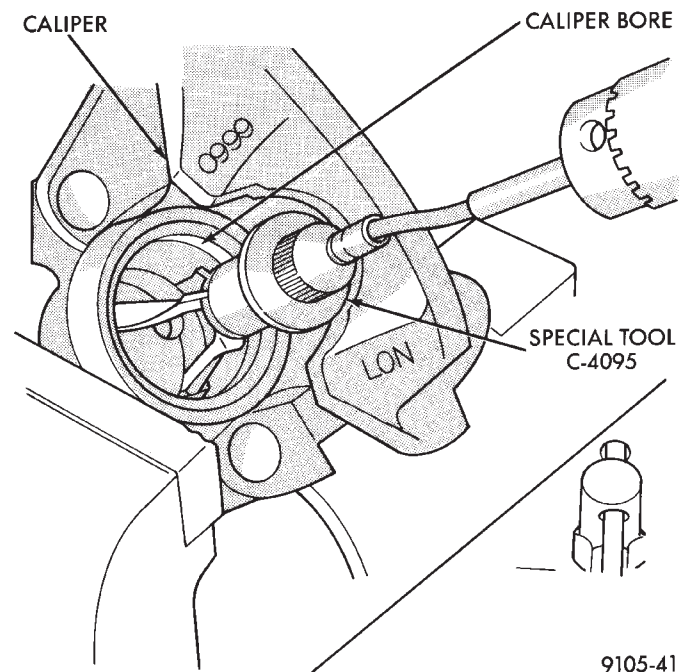

Fig. 184 Honing Brake Caliper Piston Bore
(5) Inspect the piston bore for scoring or pitting. Bores that show light scratches or corrosion can usually be cleared of the light scratches or corrosion using crocus cloth. Bores that have deep scratches or scoring should be honed. Use Caliper Hone, Special Tool C-4095, or the equivalent to hone the bore. Do not over-hone the bore. Do not increase the diameter of the bore more than 0.0254 mm (0.001 inch) (Fig. 184). If the bore does not clean up within this specification, a new caliper housing should be installed.